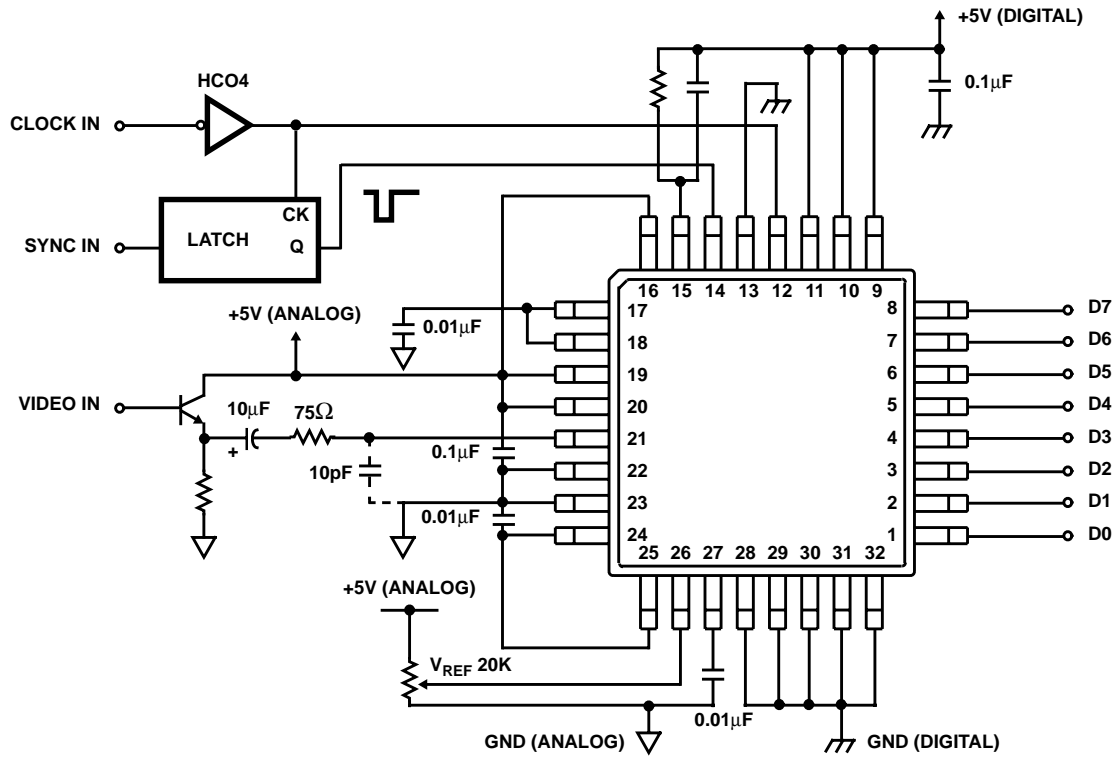

FIGURE 3. PEDESTAL CLAMP EXECUTED BY SYNC PULSE
When inputting the clamp pulse directly, care should be taken to have the SYNC pulse input latched by the ADC sampling clock connected to the PW input. This is done to prevent beat frequencies, generated between the clock and clamp inputs, from showing up as vertical sag in video applications. If this is not a concern the latch is not necessary. In this mode of operation, narrow pulse widths can also be achieved. The minimum allowable pulse on the PW pin (14) in this configuration is 1.75ns. Figure 3 graphically illustrates this mode of operation.